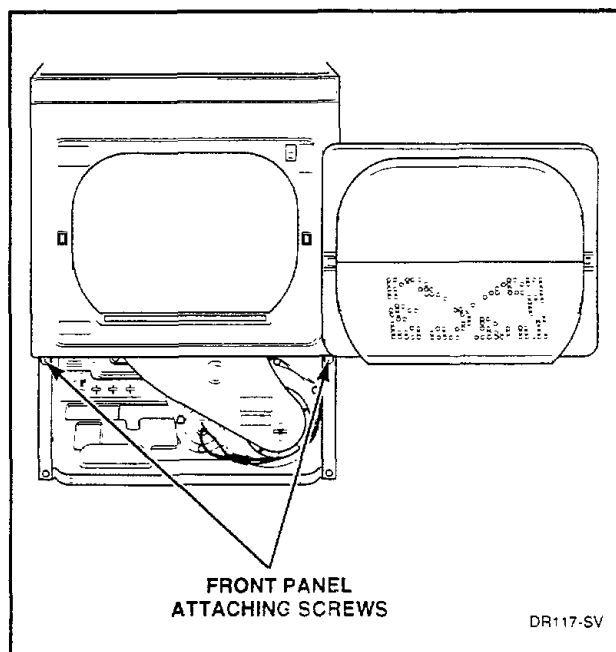

Figure 11
- Remove two screws holding bottom tabs on front panel to dryer cabinet. Swing front panel away from dryer to disengage hold-down clips and guide lugs from cabinet top, *Figure 11*.
- k. Remove two screws holding bottom tabs on front panel to dryer cabinet. Swing bottom of front panel away from dryer to disengage hold-down clips and guide lugs from cabinet top, *Figure 11*.